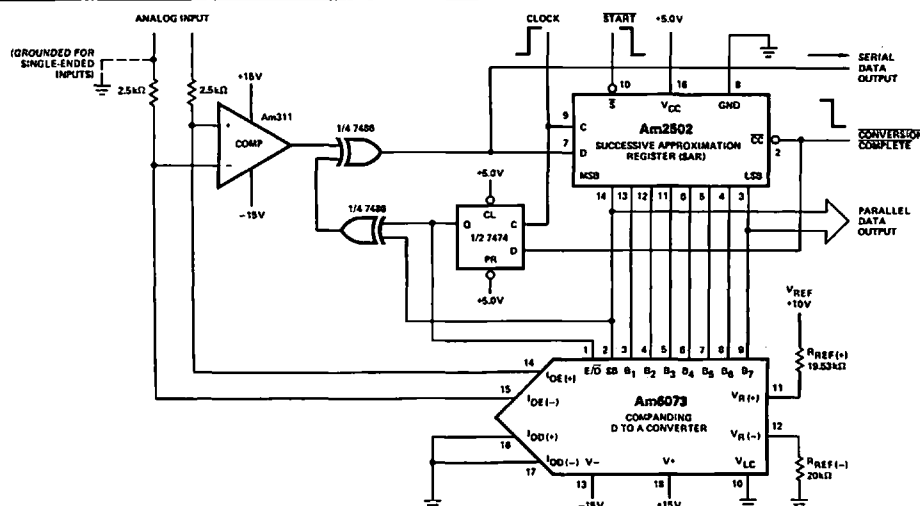

Figure 3. Detailed Encoder Connections.
in Figure 3, an offset current equal to a half step in each chord is required to obtain the correct encoder transfer characteristic. Since the size of this step varies from one chord to another, it cannot easily be added externally. As indicated in the block diagram this required half step of encode current, I_{EN} , is automatically added to the I_{OE} output through the internal chip design. This additional current will, for example, make the ideal full scale current in the encode mode larger than the same current in the decode mode by $32\mu A$. Similarly, the current levels in the first chord near the origin will be offset by $0.5\mu A$, which will bring the ideal encode current value for step 0 on chord 0 to $\pm 1.0\mu A$ with respect to the corresponding decode current value of $0.5\mu A$. This additional encode half step of current can be used for extension of the output dynamic range from 62dB to 66dB, when the converter is performing only the decode function. The corresponding decoder connection utilizes the E/\bar{D} input as a ninth digital input and has the outputs $I_{OD(+)}$ and $I_{OE(+)}$ and the outputs $I_{OD(-)}$ and $I_{OE(-)}$ tied together, respectively.
When encoding or compression of an analog signal is required, the Am6072 can be used together with a Successive Approximation Register (SAR), comparator, and additional SSI logic elements to perform the A/D data conversion, as shown in Figure 3. The encoder transfer function, shown on page 1, characterizes this A/D converter system. The first task of this system is to determine the polarity of the incoming analog signal and to generate a corresponding SB input value. When the proper START, (S), and CONVERSION COMPLETE, (\bar{C}), signal levels are set, the first clock pulse sets the MSB output of the SAR, Am2502, to a logic 0 and sets all other parallel digital outputs to logic 1 levels. At the same time, the flip-flop is triggered, and its output provides the E/\bar{D} input with a logic 0 level. No current flows into the I_{OE} outputs. This disconnects the converter from the comparator inputs, and the incoming analog signal can be compared with the ground applied to the opposite comparator input. The resulting comparator output is fed to the Am2502 serial data input, D, through an exclusive-or gate. At the same time, the second input to the same exclusive-or gate is held at a logic 0 level by the additional successive approximation logic shown in Figure 3. This exclusive-or gate inverts the comparator's outputs whenever a negative signal polarity is detected. This maintains the proper output current coding, i.e., all ones for full scale and all zeros for zero scale.